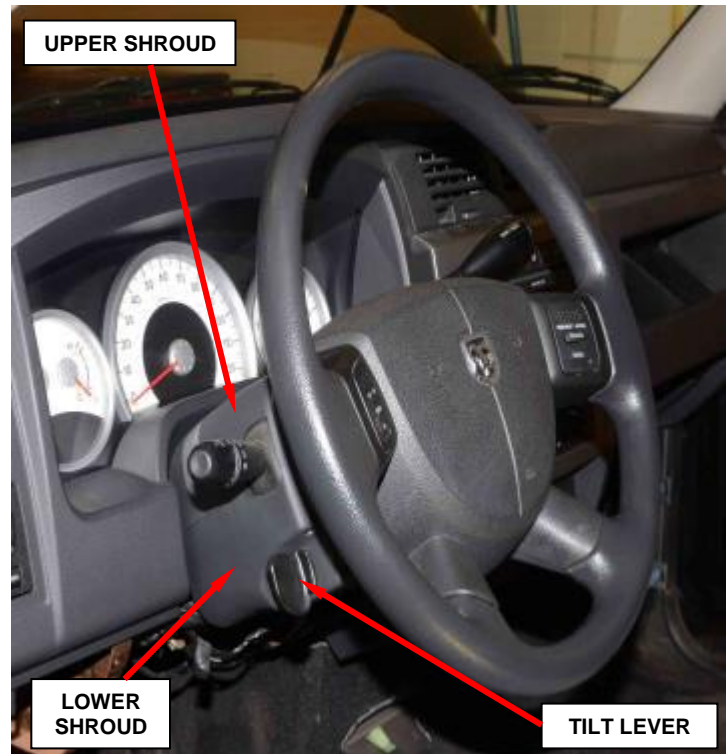

Figure 87 – Steering Column Shrouds
9. Remove the steering column tilt lever knob (Figure 87).
10. Remove the three screws from the lower steering column shroud and remove the upper and lower shrouds (Figure 87).